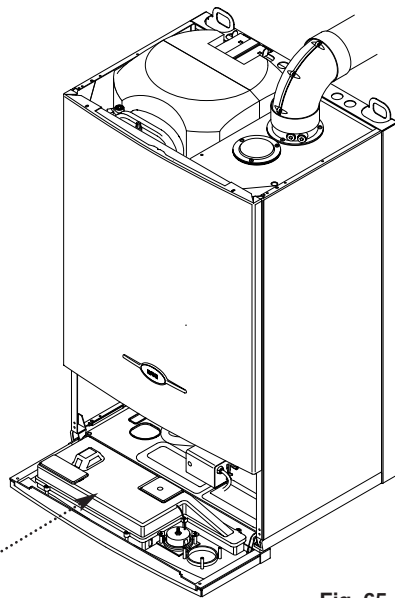

Fig. 65
11.10 Circuit Boards & Electrical Components (Figs. 65 & 66)